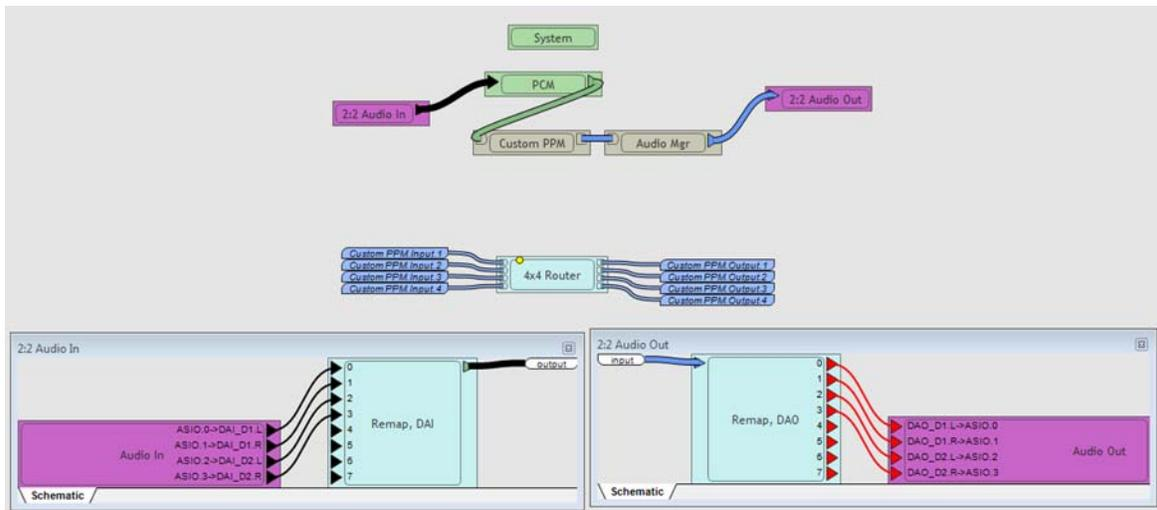

Figure 5-4. S/PDIF + LINE-IN
- An S/PDIF + LINE-IN project is shown in Fig. 5-4.